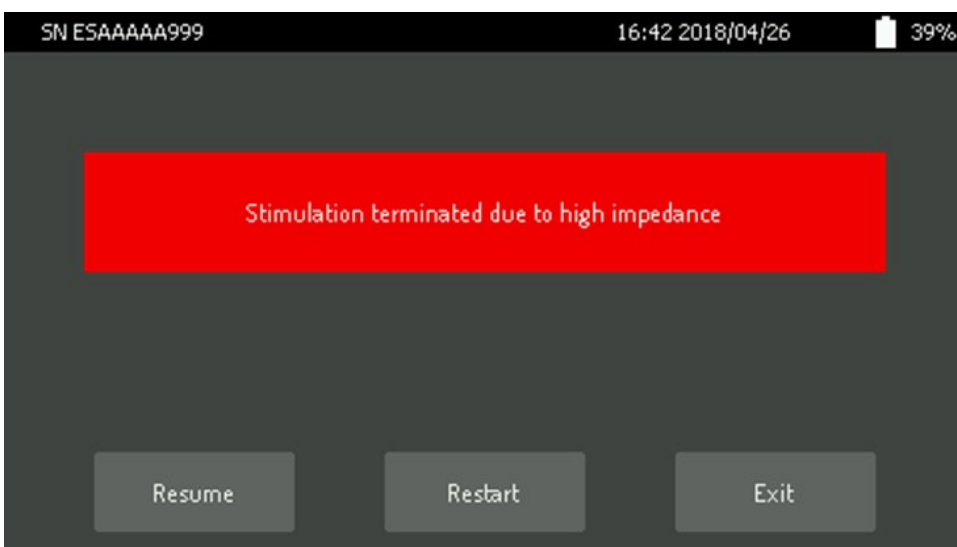

Figure 73. Stimulation terminated due to high impedance or disconnected electrodes – visible as high impedance.
- impedance value falls below or above safe range (Figure 73),
- user disconnects electrodes or pin cables (Figure 73),